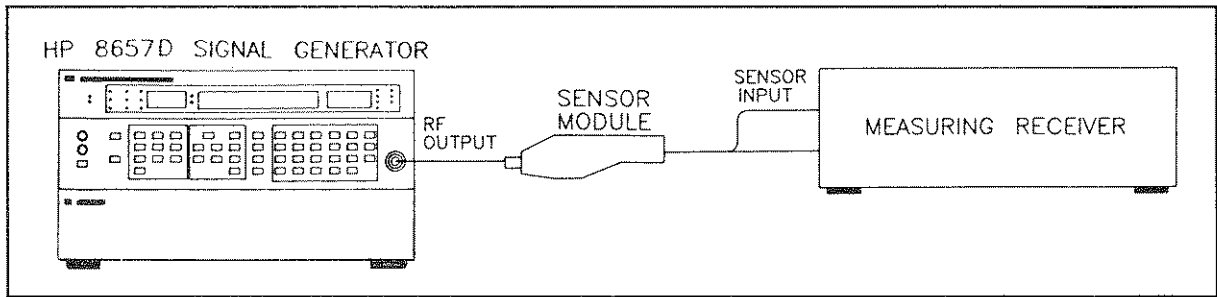

Figure 4-6. Output Level Accuracy and Flatness Test Setup
2. Connect the sensor module to the HP 8657D as shown in Figure 4-6.